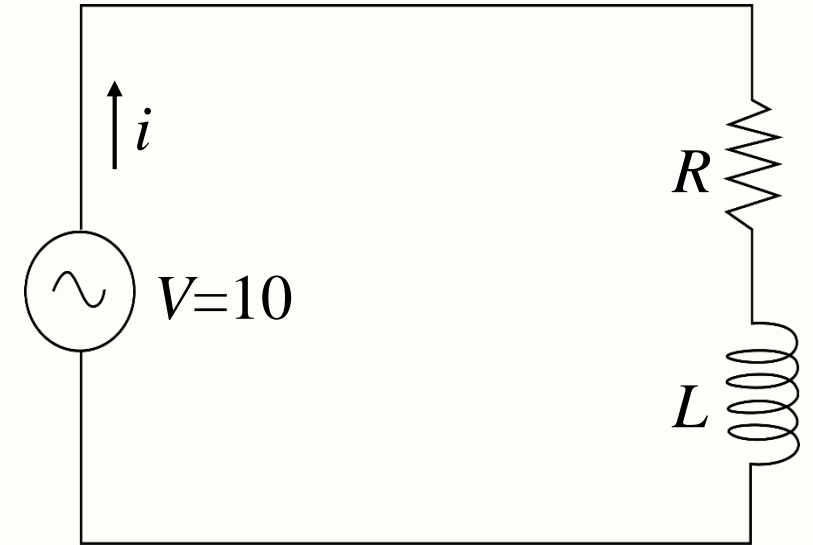

Fig. 39. Electric equivalent circuit.
- b) When connected to 10 V ac, 50 Hz, the electric circuit is shown in Fig. 39, where